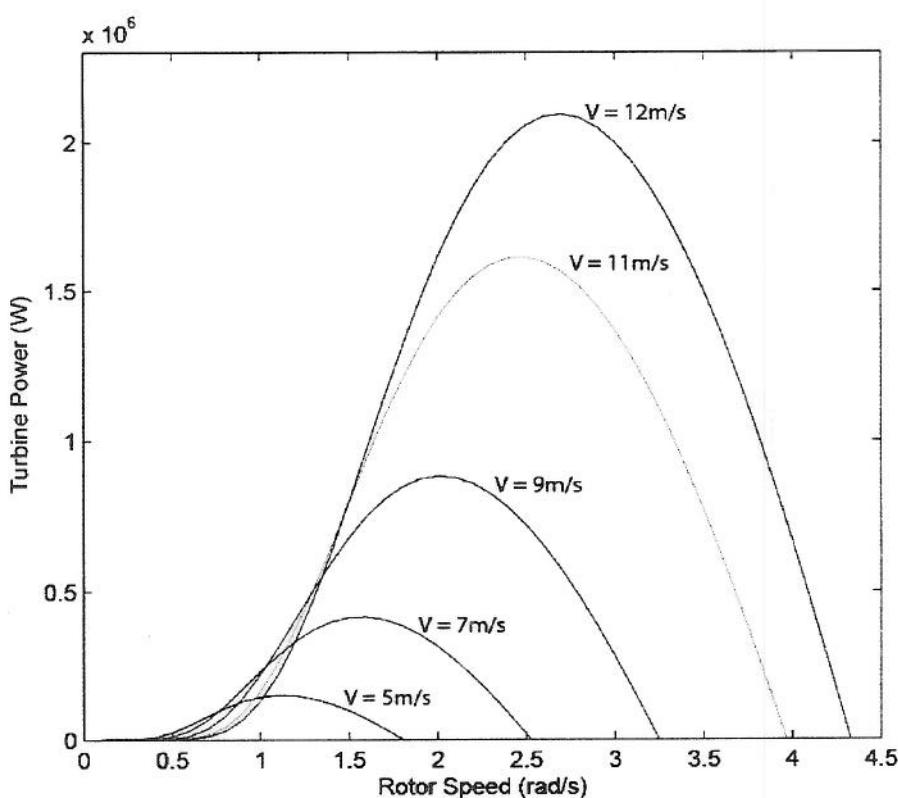

Figure 1.1, Turbine power against rotor speed
- a) Figure 1.1 shows the power produced by a particular turbine blade (with a radius of 35 m) as a function of rotational speed for a variety of wind speed.
- Estimate the tip speed ratio required to achieve maximum power for the turbine in figure 1.1. [2]